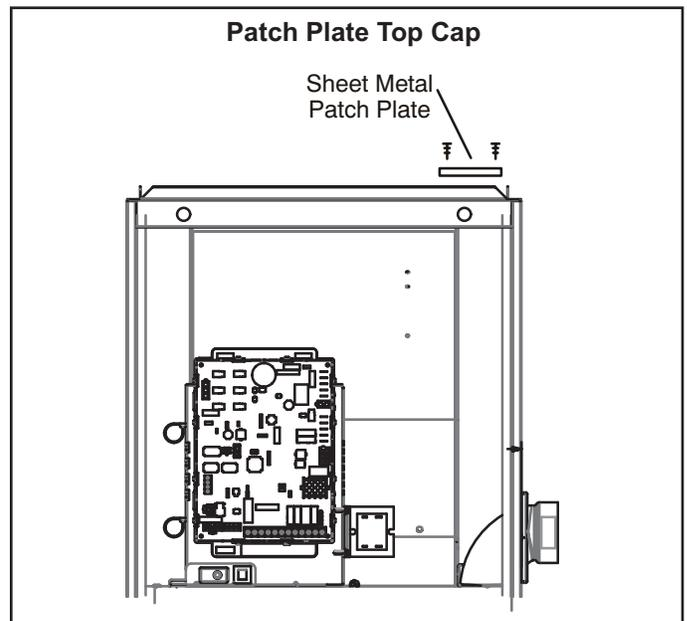
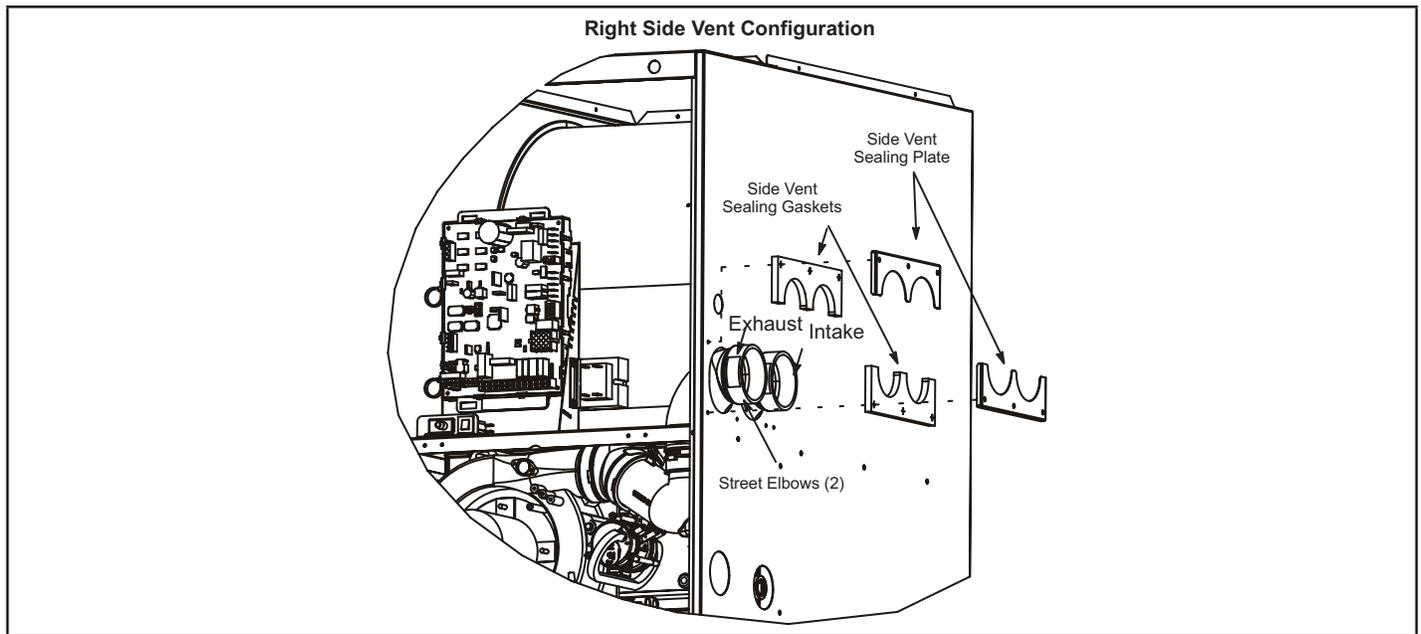

FIGURE 19
FIGURE 20
The EL296DFV is shipped with vent exhaust / air intake connection at the top cap. See FIGURE 19. Using parts provided, the furnace may be field modified to have these connections on the right side of the furnace cabinet. See FIGURE 20 and follow the steps below. For left side venting order kit 87W73.
- 8 - Re-use the patch plate to cover the hole in the top cap. See FIGURE 19. Remove the 2 screws which secure the top cap to the furnace on the right side and re-install securing the right edge of the patch plate and the right side of the top cap to the furnace. Use 2 self-drilling sheet metal screws (provided) to finish securing the left edge of the patch plate on the left side.
- 11 - Peel protective backing from side vent sealing gaskets (2) and apply to side vent sealing plates (2) as shown in FIGURE 20.
- 12 - Install the side vent sealing plates and gaskets on the exterior of the cabinet as shown in FIGURE 20. Secure with six mounting screws (four reused and two provided from bag assembly). Holes are pre-punched in the parts and cabinet, no drilling is required.